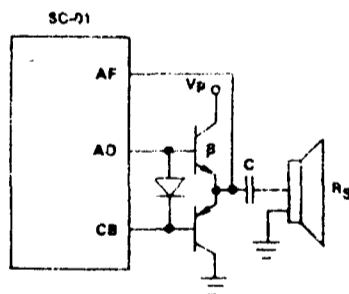

Figure 12. Class B Amplifier*
Class B Amplifier: See Figure 12. A current source (CB) is required for this push-pull amplifier.